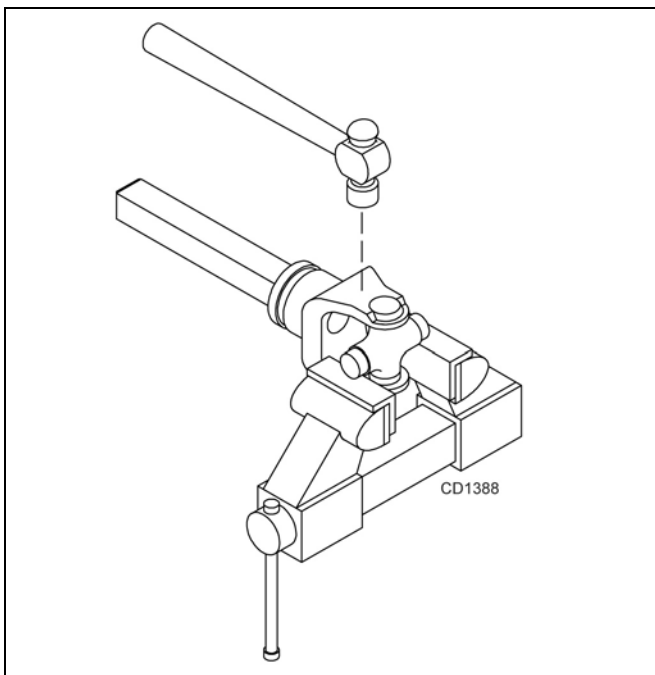

Figure 19
- Place universal cross in vise as shown in Figure 19 and tap on yoke to remove cup. Repeat Step 3 for final removal. Drive remaining cup out with a drift and hammer.